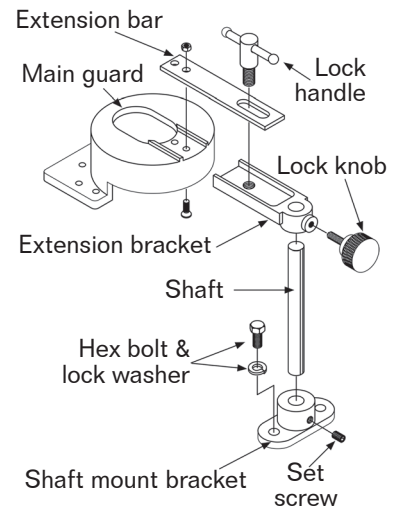

Fig 16. Guard assembly
1. Attach the shaft mount bracket (See Figure 16) to the back of the table with the hex bolts and lock washers already mounted to the table.
2. Insert the shaft (Figure 16) into the bracket so the flat surface faces away from the machine.
3. Slide the extension bracket (Figure 16) through the shaft and secure it with the lock knob.
4. Using the two 5/16" -18 x 3/4" flat head screws and hex nuts, tightly secure the extension bar to the main guard. See Figure 16.